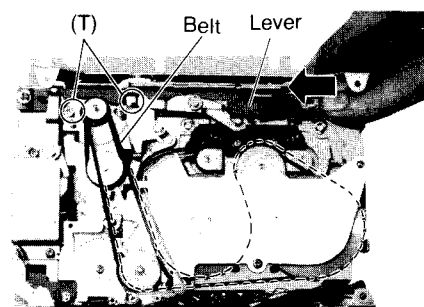

Fig. 12
*2. Set the motor belt as shown in fig. 12.